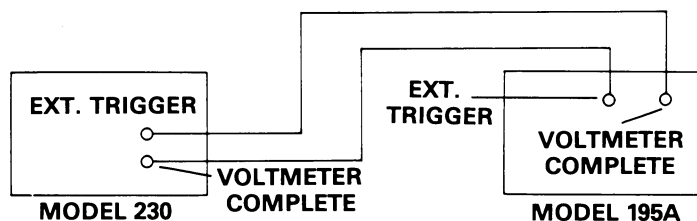

Figure 2-5. External Trigger Connections
1. Connect the Model 195A to the Model 230 as shown in Figure 2-5. Use suitable shielded cables with BNC connectors. The Model 195A VOLTMETER COMPLETE OUTPUT should be connected to the Model 230 EXTERNAL TRIGGER INPUT. The Model 195A EXTERNAL TRIGGER INPUT should be connected to the Model 230 EXTERNAL TRIGGER OUTPUT.